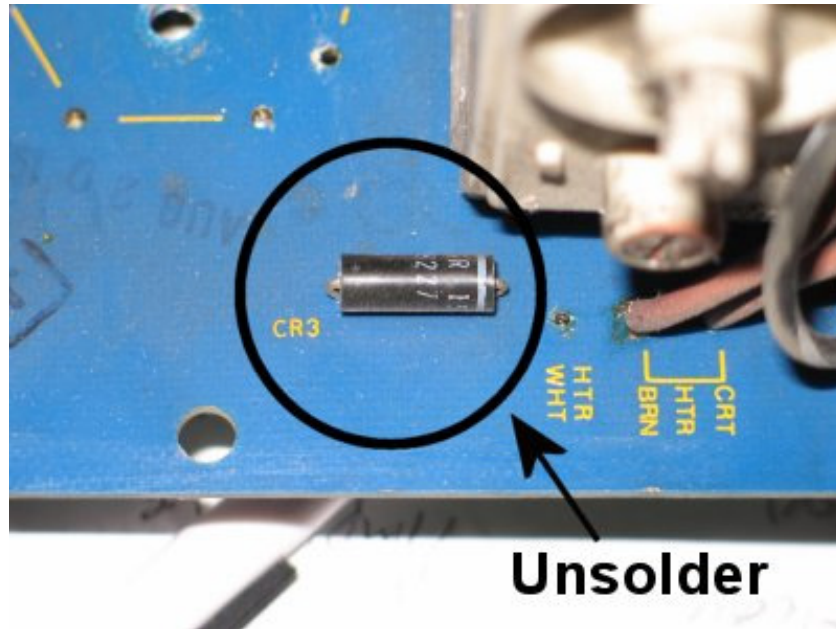

Figure 6: Diode CR3
5. Carefully unsolder and remove diode CR3. (See Figure 6)